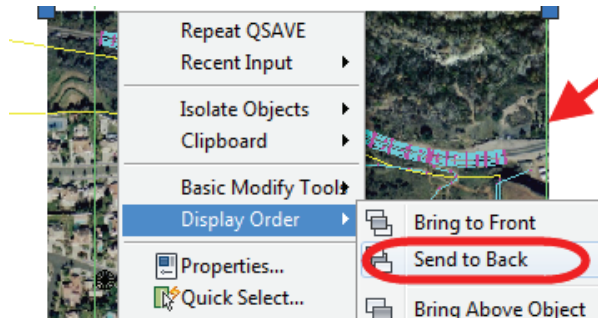

Figure 2–2
2. You might have to change the draw order to be able to view the other objects. In Model Space, select the image, right-click, and select **Display Order > Send to Back**, as shown in Figure 2–2.
3. To toggle on the *Survey* tab, click the Survey Toolspace icon in the Ribbon's *Home* tab > Palettes panel, as shown in Figure 2–3.